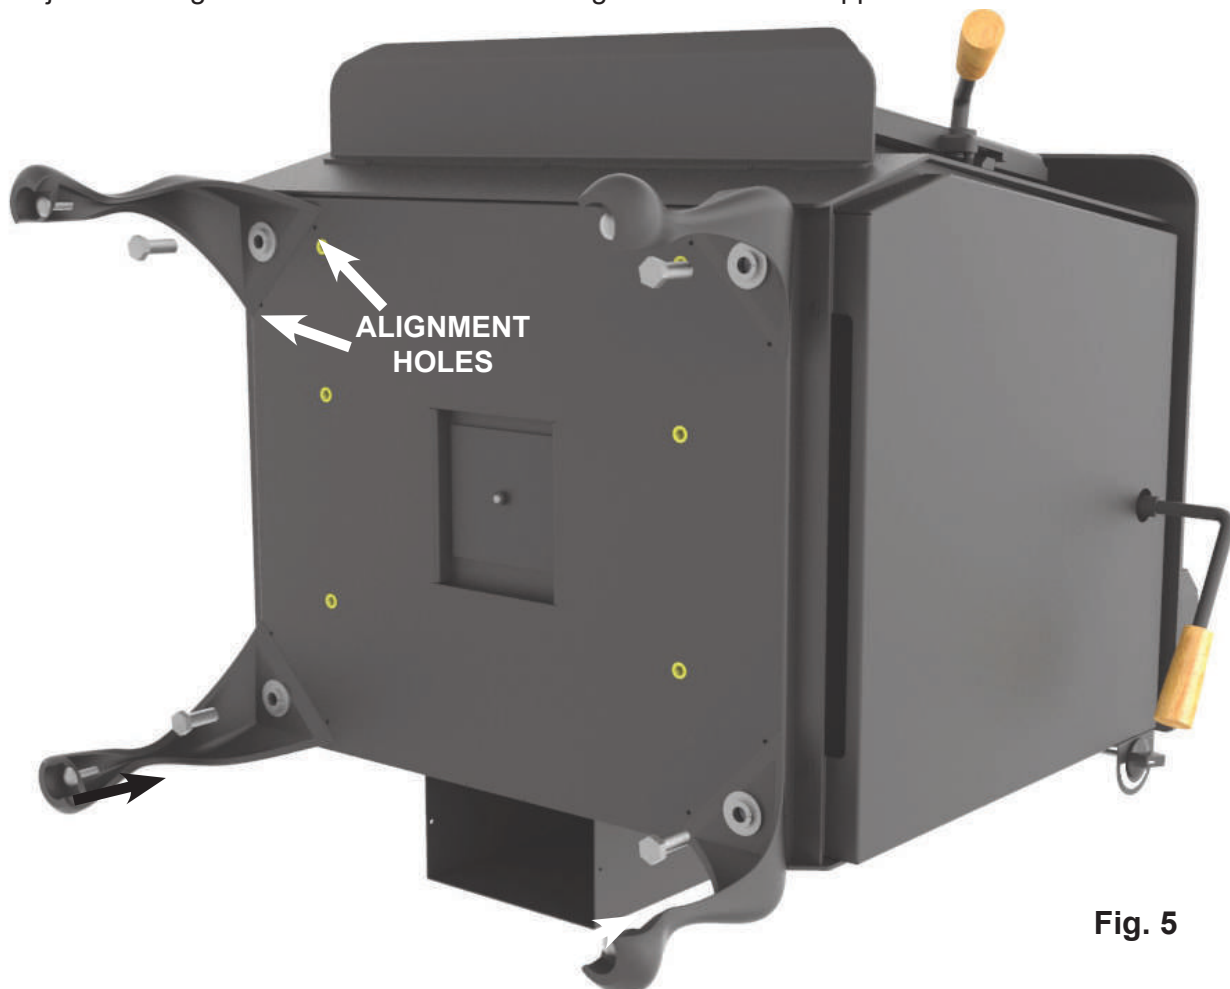

Fig. 5
2. Position each leg accordingly, using alignment holes in appliance base as guides. Fasten the legs to the appliance using the hardware supplied with the kit. **(Fig. 5)**